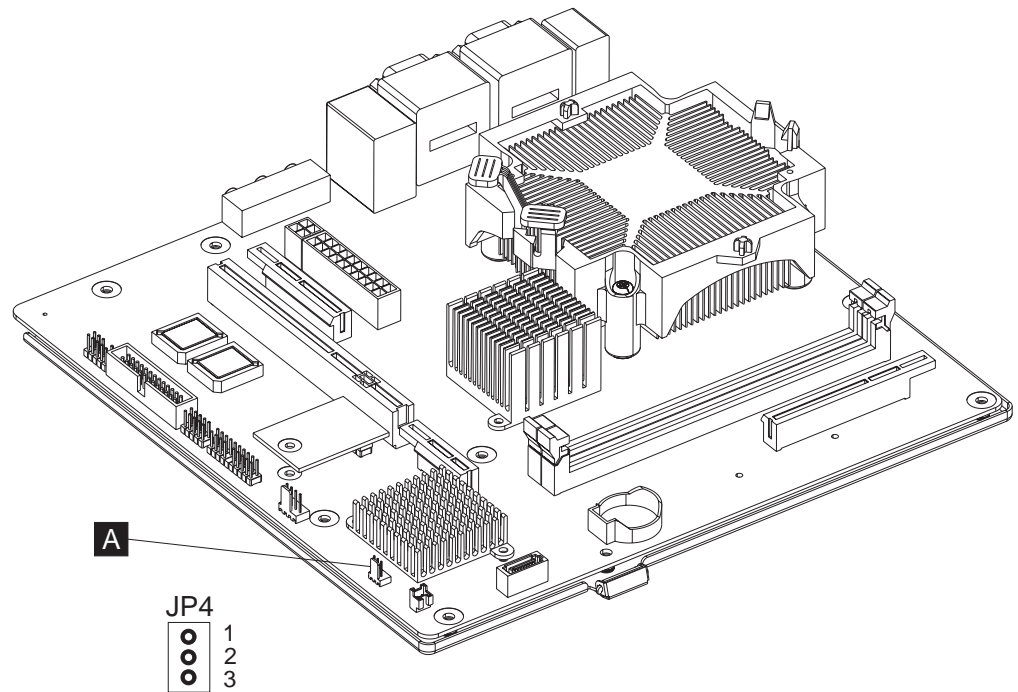
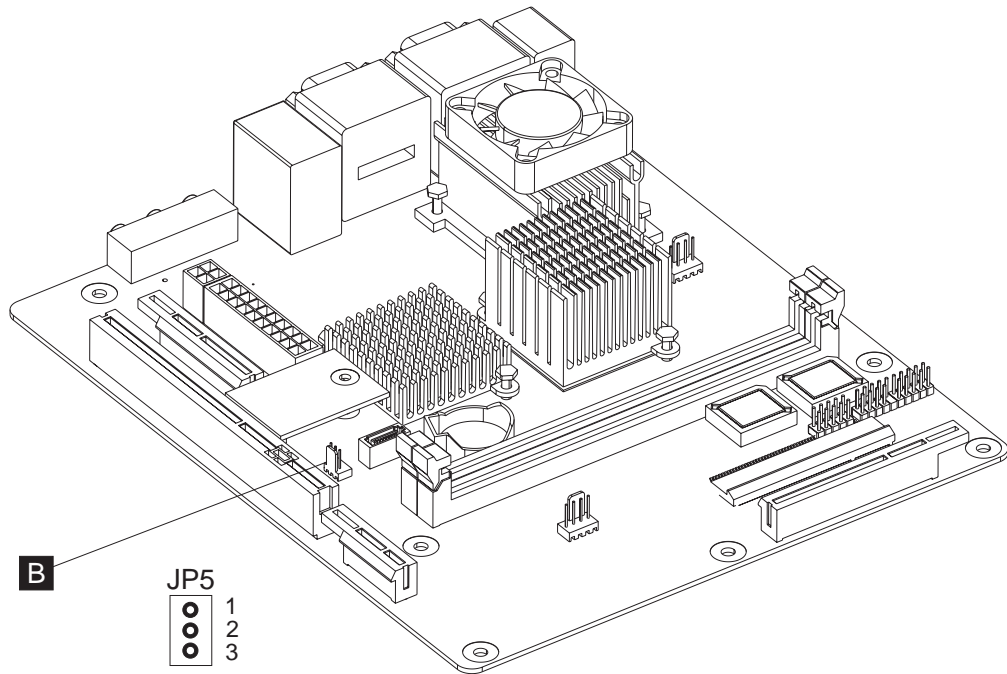

Figure 42. Location of CMOS jumper - Models 743, C43, E43, 783, and E83
Figure 43. Location of CMOS jumper - Models 723 and E23
4. See **A** in Figure 42 or **B** in Figure 43 on page 62 to locate your CMOS jumper on the system board. See Table 10 on page 62 for the correct pins and position to clear your CMOS settings.